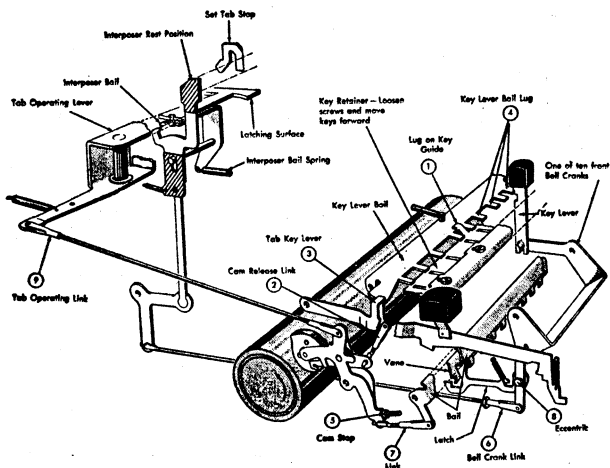
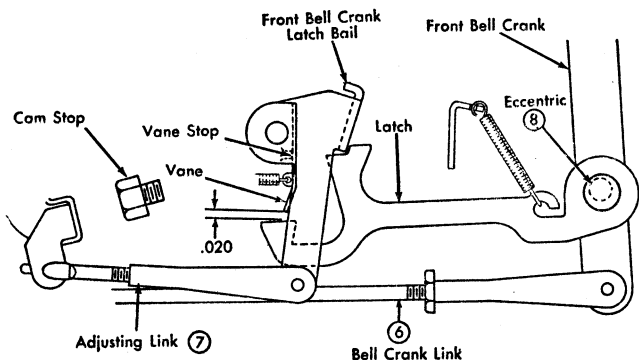
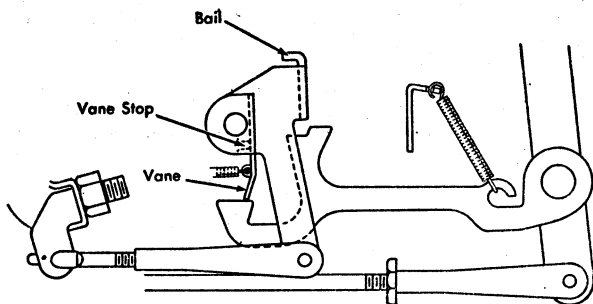

Figure 1. Decimal Tabular Mechanism
Figure 2. Cam on High Point
Figure 3. Cam Restored, Key Held Depressed.
1. **THE LUG IN THE CENTER OF THE DECIMAL TAB KEY GUIDE** should be formed so that the majority of the lugs on the bail rest $1/16''$ below the top of the notches cut in the back edges of the decimal tab key levers (Figure 1).
7. **THE ADJUSTING LINK ON THE BOTTOM OF THE TAB CAM** (Figure 1), should be adjusted so that with the key lever depressed and with the cam on its high point, the latch vane will clear the latches by .020" (Figure 2). With the key lever still depressed allow the tab lever to unlatch. The vane should then rest on the latch by approximately .020" (Figure 3). If this overlap is not evident, form the right extension of the vane to provide this condition.
8. **THE ECCENTRICS ON THE FRONT BELL CRANKS** (Figure 2) should be adjusted so that the front bell cranks will safely latch before the tab cam is released. With the front bell crank latched, its interposer should be high enough to allow the interposer bail on the rear rail to engage it properly.
9. **THE TAB OPERATING LINK** should be adjusted so that with the cam on its high point the tab operating lever will move far enough to latch safely (Figure 1). The tab operating lever should not restrict the interposers at rest.